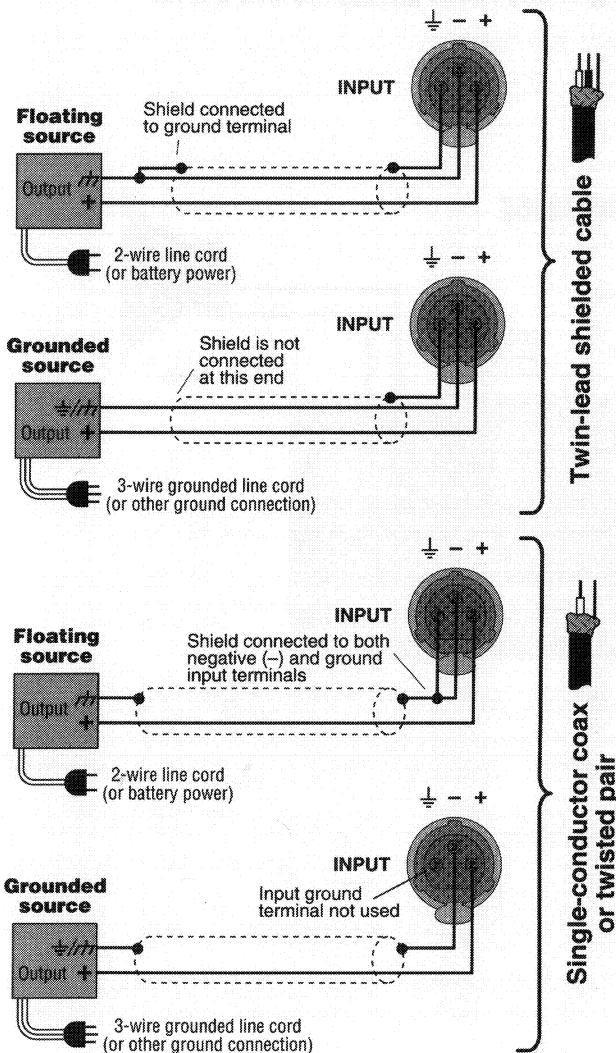
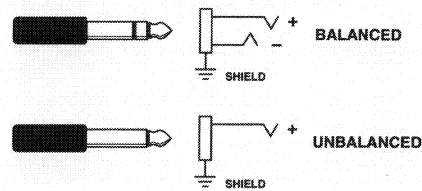

Fig. 3.7 Unbalanced Input Wiring
Fig. 3.9 Balanced and Unbalanced Phone Plugs
Both the balanced XLR and phone jack inputs have a nominal impedance of 10 K ohms (5 K ohms with unbalanced wiring) and will accept the line-level output of most devices. Female XLR input connectors are provided on the standard P.I.P.-FX input module (other P.I.P. modules are described in Section 9). Correct input wiring will depend on two factors: (1) whether the input signals are balanced or unbalanced, and (2) whether the signal source floats or has a ground reference. Figures 3.7 and 3.8 show the recommended connection techniques for each type of signal source.
positive (+), the ring is negative (-) and the sleeve is ground (see Figure 3.9). Wiring for various sources follows the XLR wiring guidelines shown in Figures 3.7 and 3.8.